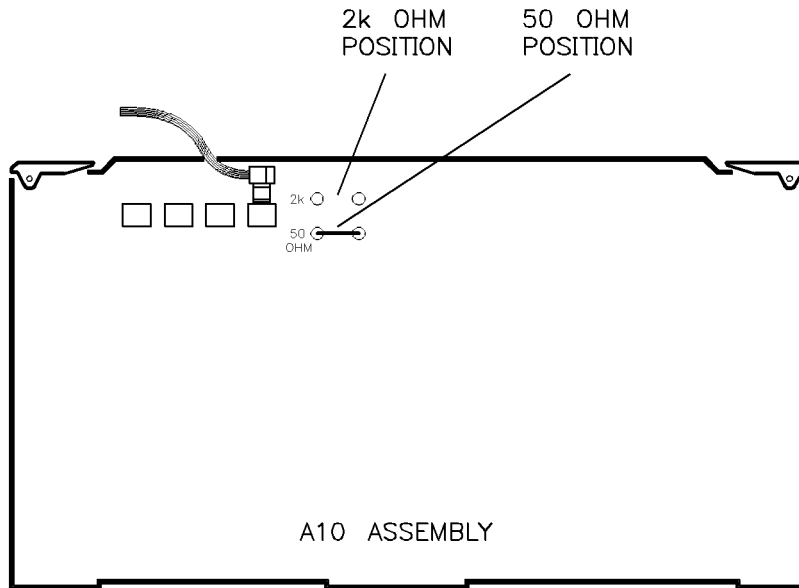

Figure 3-36. A10 Jumper Locations
2. Lift up the A10 ALC assembly far enough to access the jumper shown in Figure 3-36.